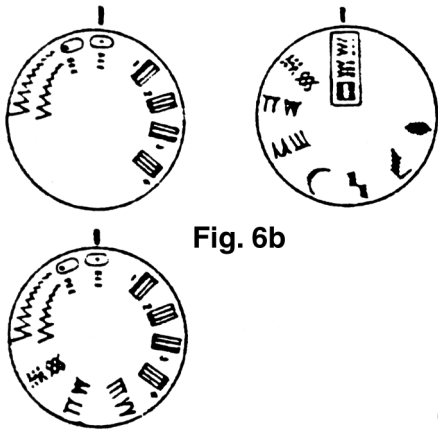

Fig. 6b
- Set control knob to straight stitch and "middle" needle position (fig. 6b).